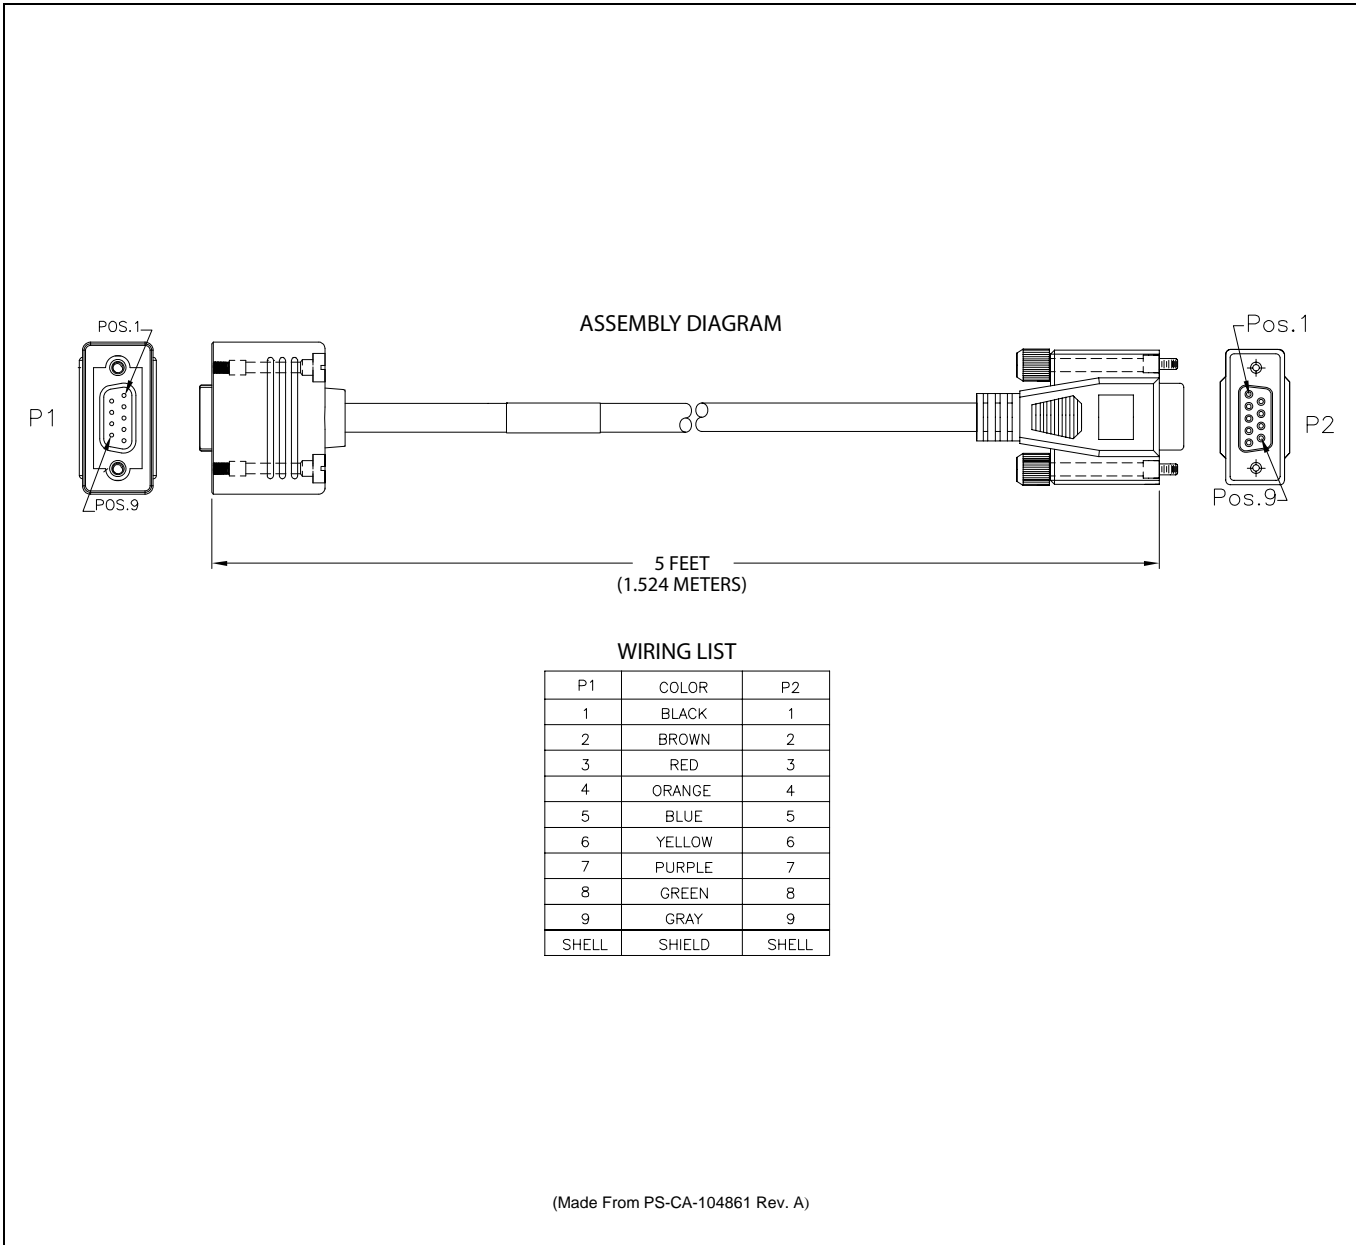

Figure 11-5: Programming Cable CA-104861
Serial Programming Cable CA-104861 (5 feet) can be used to program and configure the CH-721 control head via a Personal Computer (PC). This cable has a female DB-9 connector on one end for connection to the PC's serial port connector and a male DB-9 connector on the other end for connection to the serial port connector on the rear of the head. The cable's assembly diagram and wiring list are shown in Figure 11-5 below.